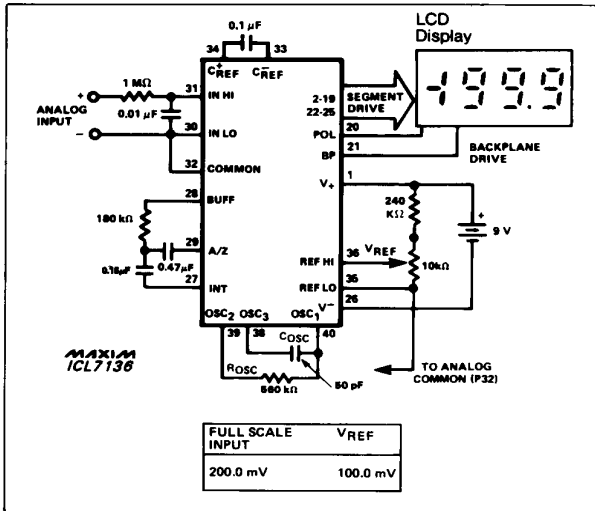

Figure 1. Maxim ICL7136 Typical Operating Circuit
**Note 3:** Unless otherwise noted, specifications apply at TA = 25°C, fCLOCK = 16kHz and are tested in the circuit of Figure 1.
( $V^+ = 9V$ ;  $T_A = 25^\circ C$ ;  $f_{CLOCK} = 16kHz$ ; test circuit - Figure 1; unless noted)
**Note 8:** Test condition is  $V_{IN}$  applied between pins IN-HI and IN-LO through a 1M $\Omega$  series resistor as shown in Figure 1.
**Note 12:** 1M $\Omega$  resistor is removed from circuits in Figure 1.